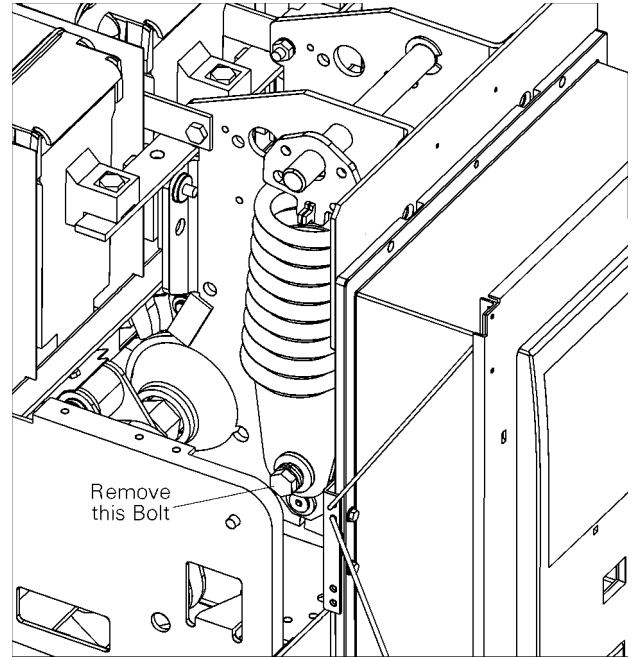

Figure 5-2. Disconnecting the closing spring assembly.
1. The closing spring must be isolated from the mechanism camshaft. Make sure that the breaker mechanism is DISCHARGED and the spring is at minimum extension, then remove the hex-head bolt shown in Figure 5-2 to disconnect the lower spring assembly from the mating camshaft linkage.